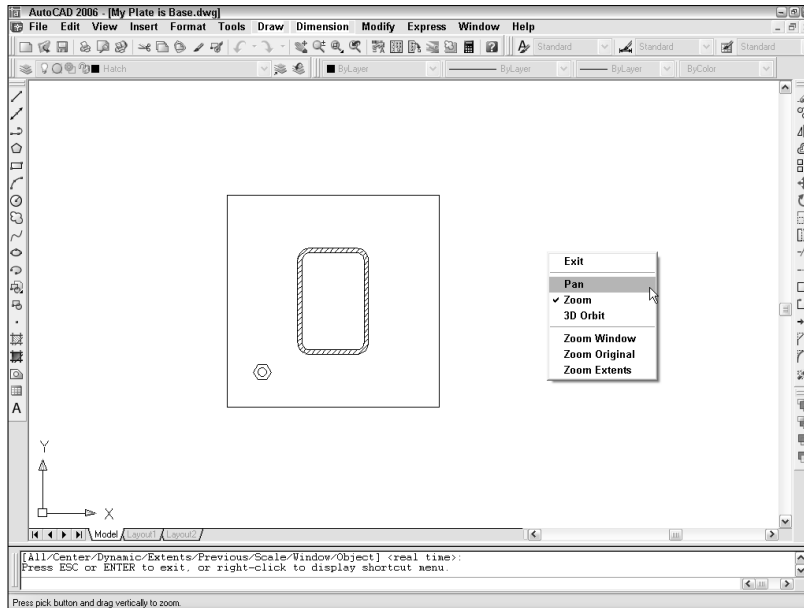

Figure 3-7:
3. Right-click in the drawing area to display the **Zoom/Pan Realtime** menu, shown in Figure 3-7, and choose **Pan** from the menu.